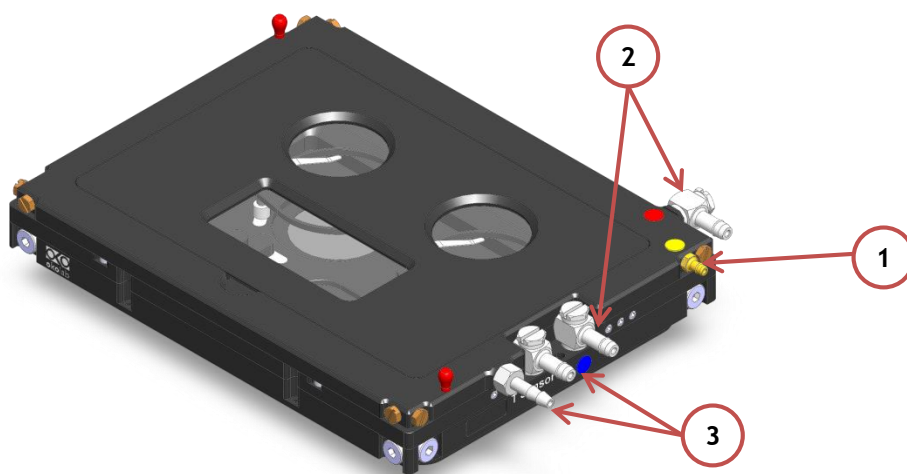
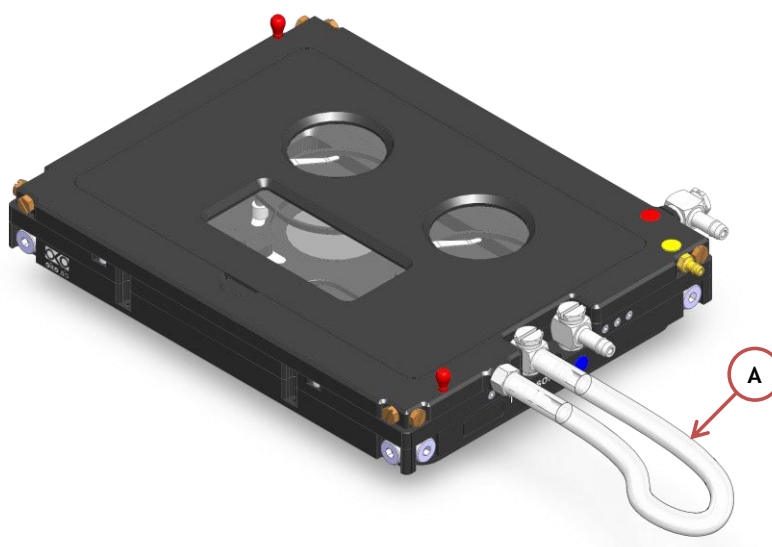

Figure 14. Connectors.
Figure 15. Connecting tubing between base and lid water jacket
1. **Gas Input.** A single silicon tubing carries output gas from the Okolab Bubbler Column to the H101-K-FRAME. Silicon tubing connects to a gas input - brass opening - located on a corner of the H101-K-FRAME. See Figure 14 Point 1. Connect by gently pushing silicon tubing onto brass opening.
2. **Water Input and Output.** Silicon tubing carry output and input water from the thermostatic bath to the H101-K-FRAME. See Figure 14 Points 2. Connect by gently pushing silicon tubing onto steel opening. Match colors on chamber steel openings with ones on the thermostatic bath.
3. **Water Input and Output.** A single silicon tubing carries output water from the lid water jacket to the base one. See Figure 14 Points 3. The silicon tubing connects the base and lid as shown in Figure 15.